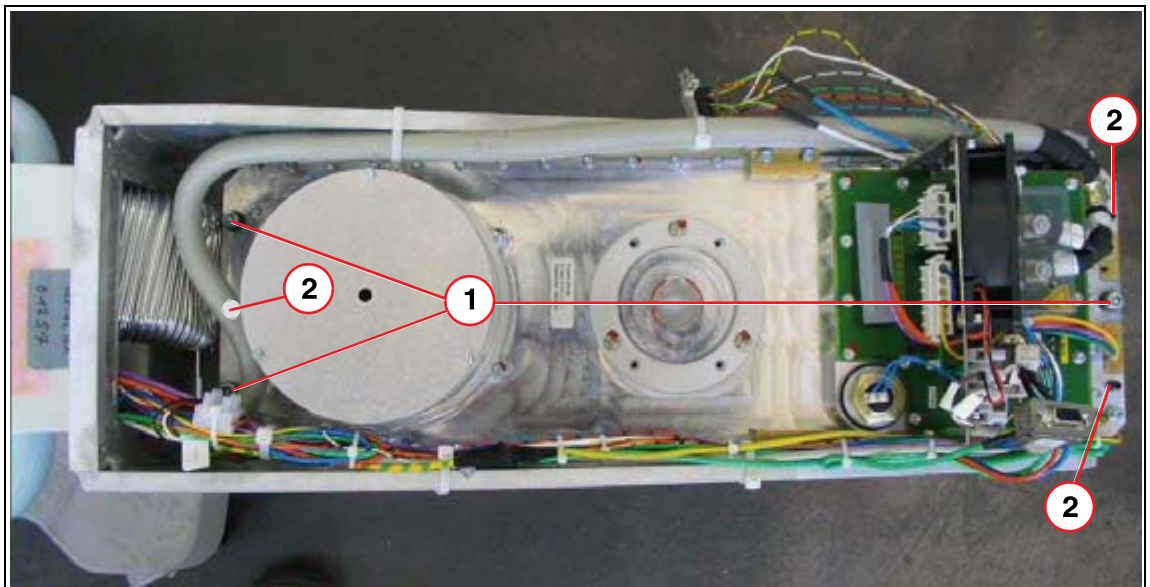

Fig. 13: Adjustment
8. Before the replacement, note the height of all grub screws (2/Fig. 13 / p. 33).
9. Loosen the fastening ISK screws of the single tank (1/Fig. 13 / p. 33).
11. Unscrew the grub screws (2/Fig. 13 / p. 33) and screw them into the new single tank.
3. Attach the single tank with the 3 ISK screws (1/Fig. 13 / p. 33) to the C-arm.
10. Set the grub screws (2/Fig. 13 / p. 33) to the distances noted at the start.
11. Screw in the fastening screws (1/Fig. 13 / p. 33), but do not tighten them; leave a few millimeters distance to the housing.
17. By setting the grub screws (2/Fig. 13 / p. 33) on the single tank, adjust the collimator centrally on the monitor.
19. After the collimator has been centered, tighten the fastening screws (1/Fig. 13 / p. 33) uniformly. Take care that the radiation field does not migrate again.